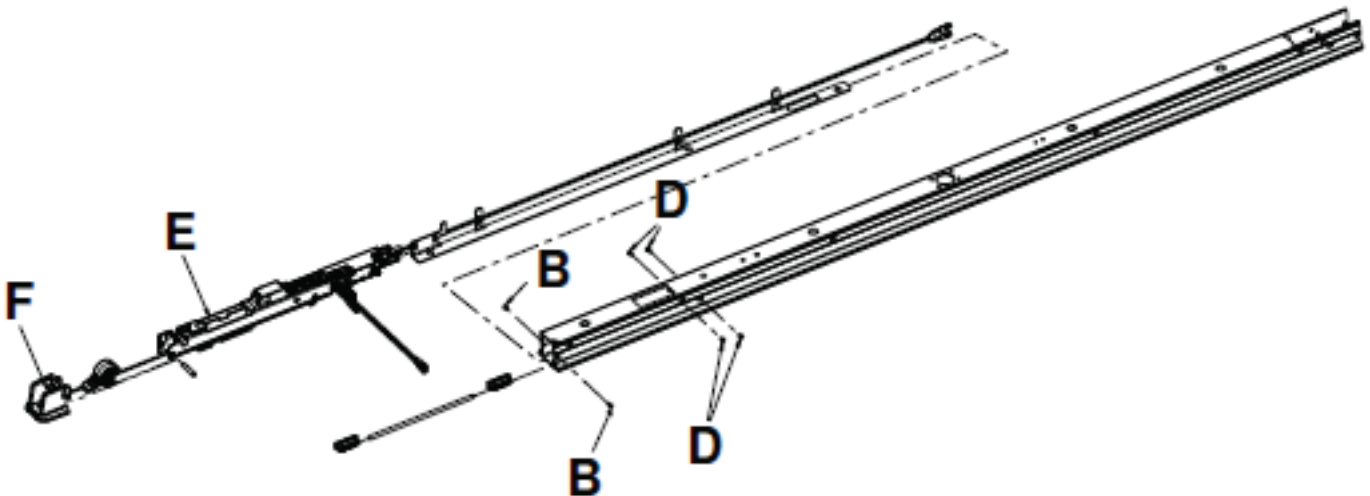

Figure 45 – Remove the anchor plunger assembly
5. Using a 1/8" hex wrench, remove the two flat head cap screws (B) that secure the release lever housing (F) to the anchor (Figure 45). Save the screws.
8. Using a 1/8" hex wrench, remove two of the four flat head cap screws (D) from one side of the anchor plunger assembly, mid (Figure 45). Save the screws.
9. Using the second 1/8" hex wrench, insert the wrench into the anchor pivot pin to remove the other two of the four flat head cap screws (D) (Figure 45). Save the screws.
11. Remove the anchor plunger assembly, mid (E) from the anchor (Figure 45).